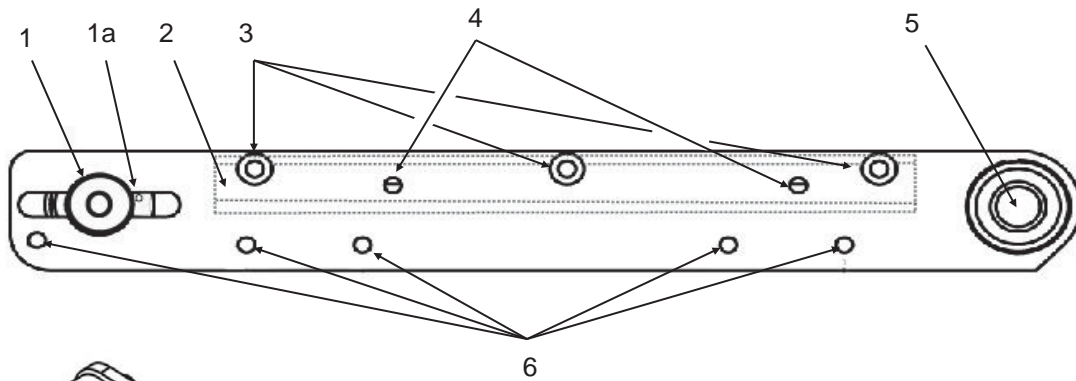
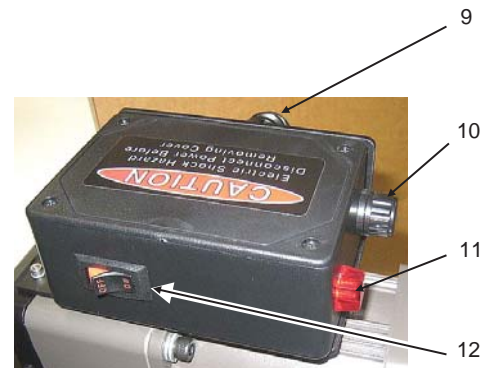

Fig. 2a — Conveyor Siderail (blank side)
Fig. 2c — Fixed-Speed Control Unit
- e. Ensure the conveyor's installed location provides sufficient siderail access (blank siderail, per Fig. 2a) for future cleaning and maintenance.
Figs. 2a and 2b (below) provide location of conveyor drive shaft, maintenance access screws, belt adjustment points and mounting holes. **Fig. 2c** shows the controls located on the factory-supplied controls for units equipped with Fixed-Speed option.
3. Locate the belt tension lock screws (see figs. 2a and 2b, #1) and loosen -- do not remove -- using a 3/16" hex wrench.
5. Using a 1/8" hex key, remove the maintenance access screws (Fig. 2a, #3).